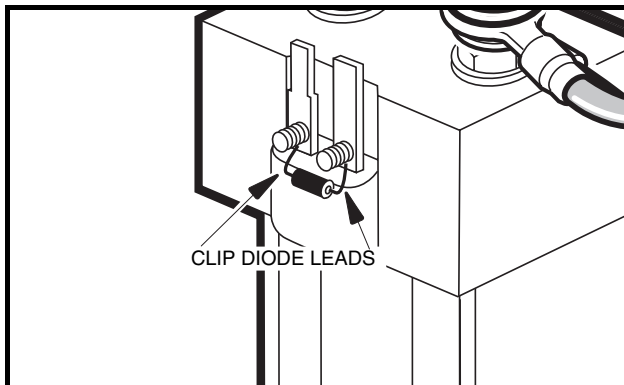
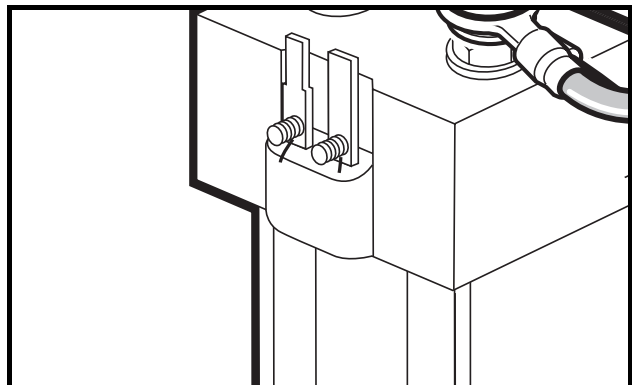

Figure 18-6 Diode Removal
Figure 18-7 Solenoid with Diode Removed
4. To remove the diode, carefully clip the two leads where they attach to the solenoid terminals (Figure 18-6, Page 18-13 and Figure 18-7, Page 18-13). See following NOTE.